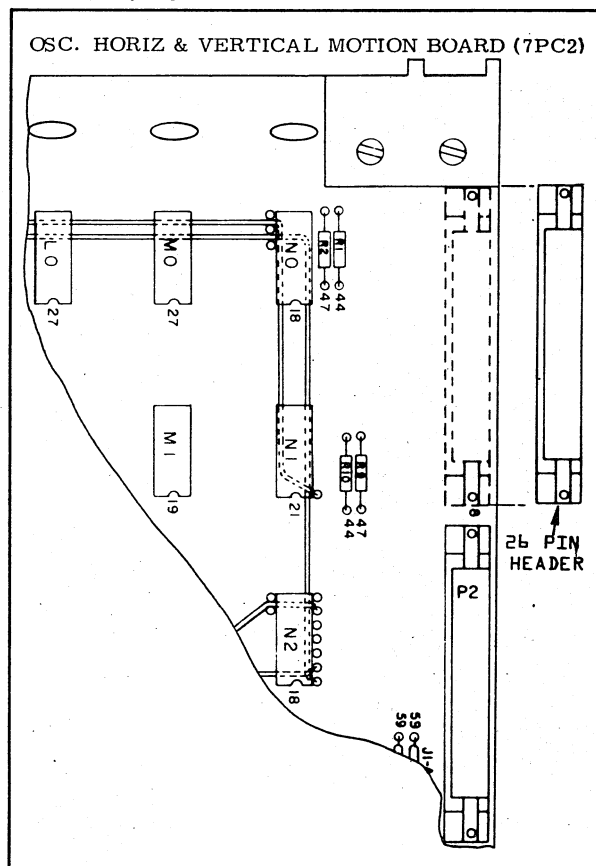

FIGURE 4-1 26 PIN HEADER INSTALLATION
- b. Position and solder a 26 pin header on the board as shown in Figure 4-1.